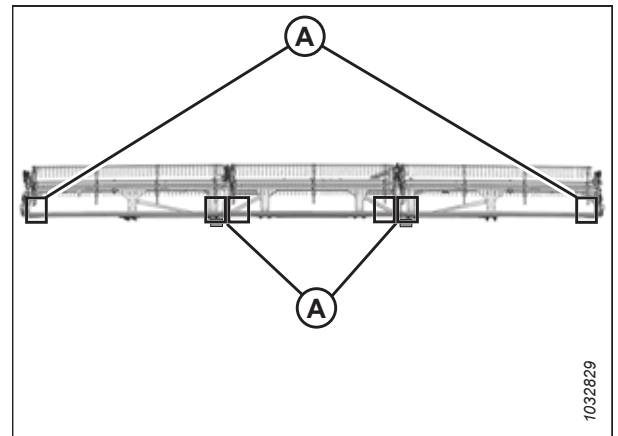

Figure 4.282: FlexDraper® Measurement Locations – Triple Reel
- Triple-reel headers: Figure 4.282, page 439